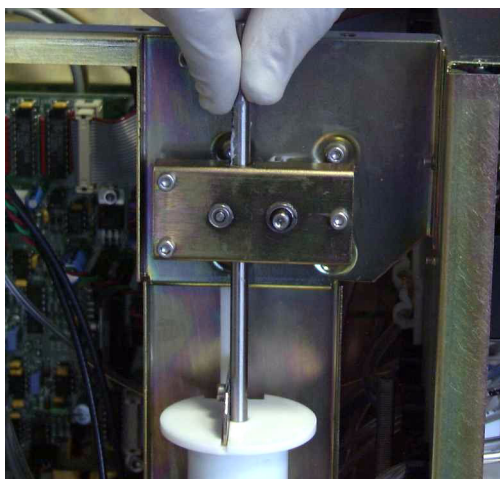

Fig.19: Manual moving
- ◆ Manually move the syringe assembly to spread the grease on all parts of the gearings and piston axis (See "Fig.19: Manual moving, page 12").